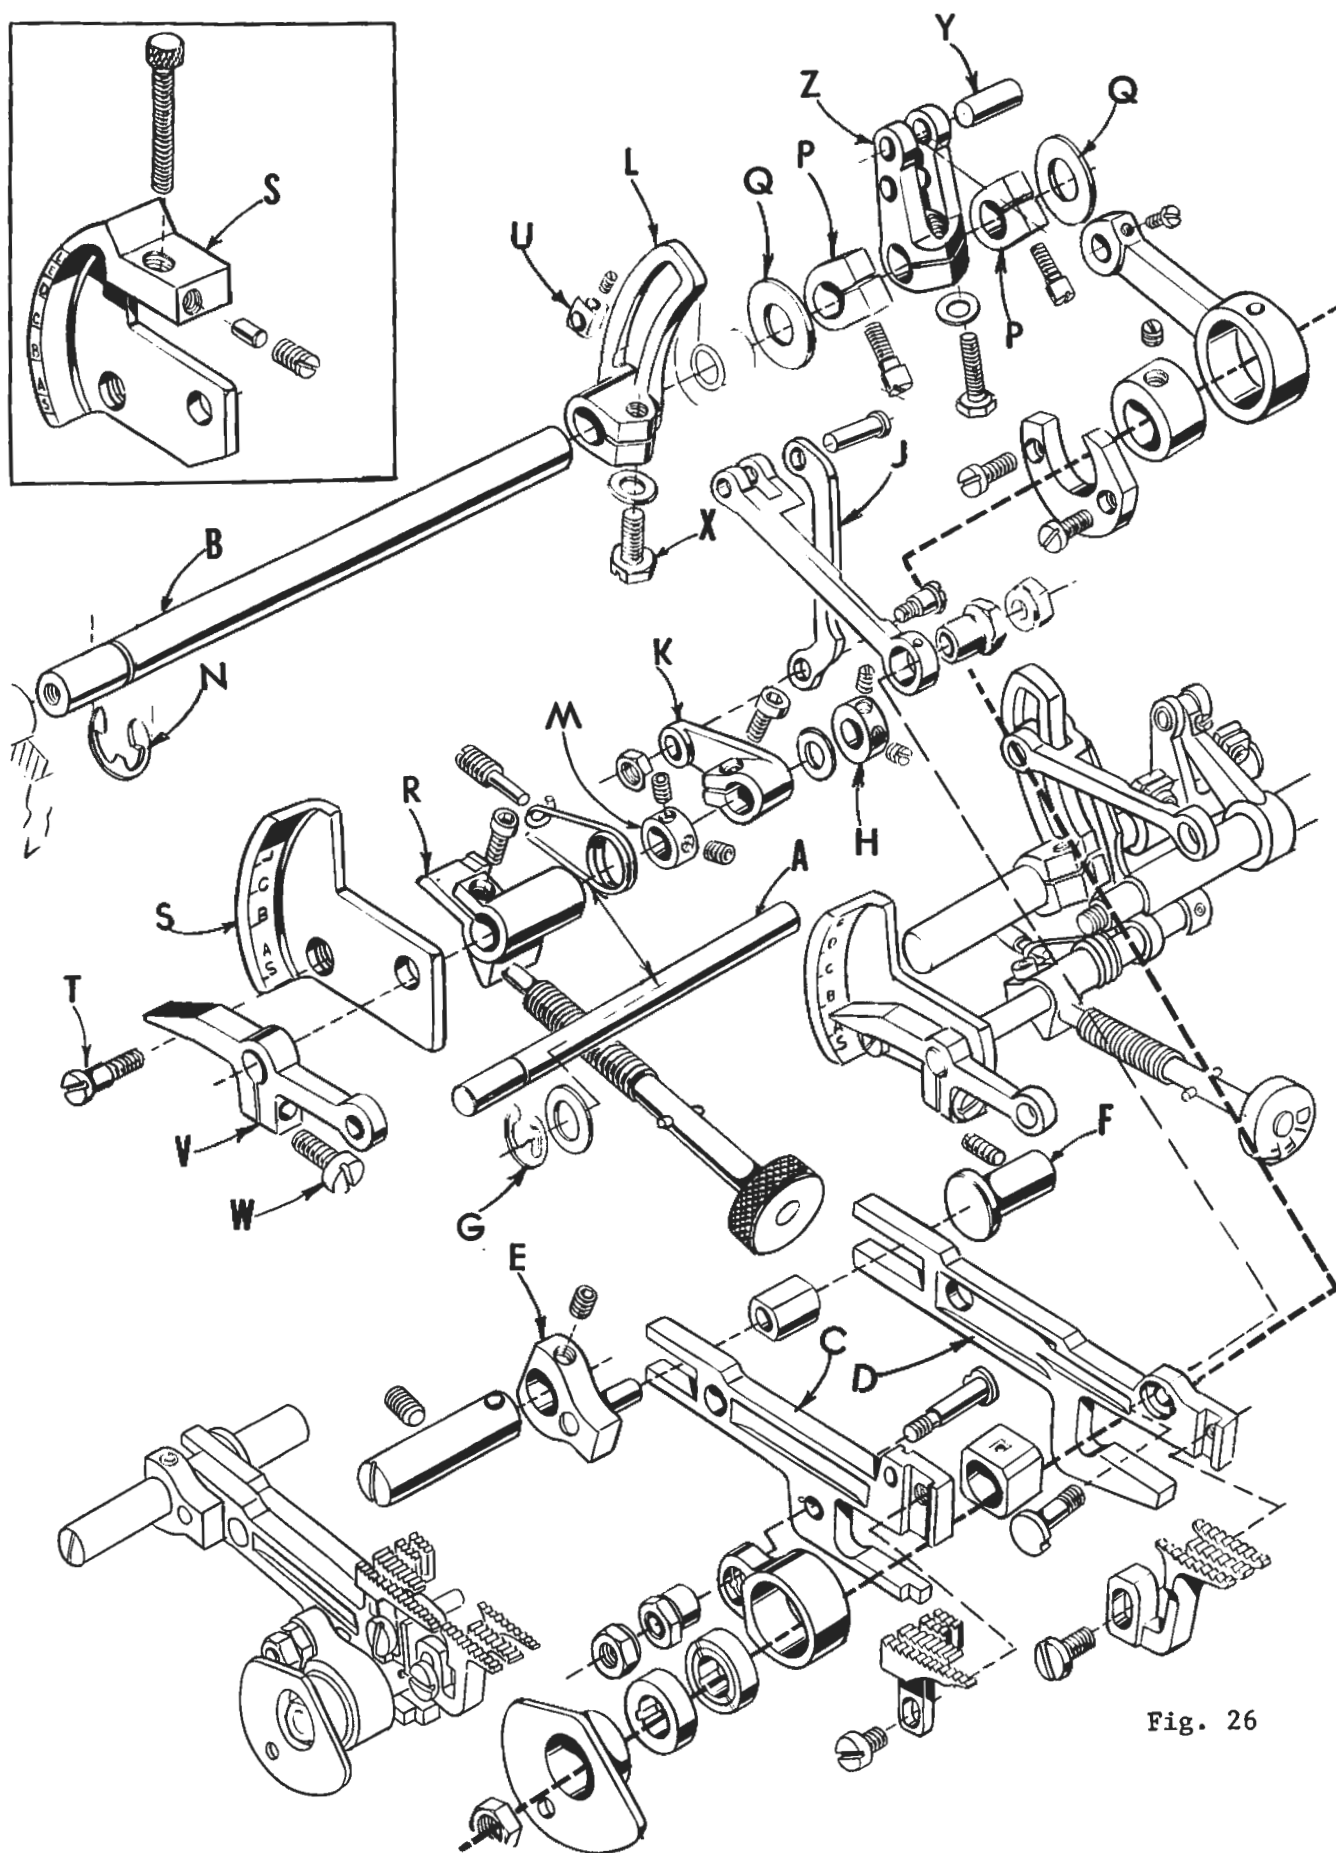

Fig. 26
1. Assemble parts as illustrated to feed control shaft (A, Fig. 26) and feed rock shaft (B); including feed bars.
2. Thrust feed bars (C and D) against differential thrust guide on bed. Align and thrust rear of feed bars with tilt adjusting pin and feed leveling lever (E) and differential feed bar guide (F).
3. Thrust the feed control shaft (A) assuring that retaining ring (G) is flush against the recess in the bed casting. Collar (H) should be thrust against the bed casting and tightened securely.
4. The differential feed control link (J) and differential feed control lever (K) must be in alignment with differential feed drive segment (L) to avoid binding and secured in position by collars (H and M).
5. Feed rock shaft (B) should be positioned with the opening of the retaining ring (N) upwards and thrust against the differential feed drive segment (L). Secure shaft (B) in this position by thrusting collars (P) against thrust washers (Q) against the bed casting.
6. A bind could occur in the differential feed drive lever (K) and differential control lever actuator (R) if the indicator plate (S) is not properly aligned. See insert for configuration of (S) on Style 39800 AT. Oversize holes are provided in plate "S" for its mounting screw (T) to allow repositioning and eliminate binds.